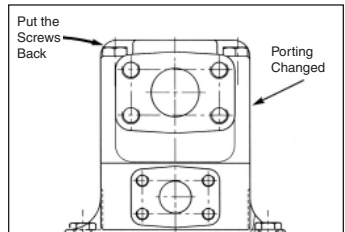

Fig. 43
5. Put the 3/8" capscrews (.500" - 13" x 4.00") back **(Fig. 43)**.